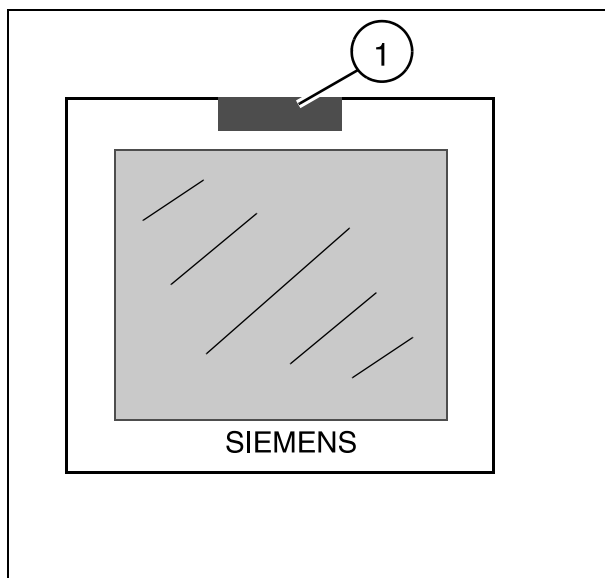

Fig. 47: Adhesive label
- Attach the "LITHOSTAR MODULARIS" label included in the shipment to the monitor of the ultrasound unit (1/ Fig. 47 / p. 45) (this label is used to identify which ultrasound unit is functioning with the LITHOSTAR MODULARIS).